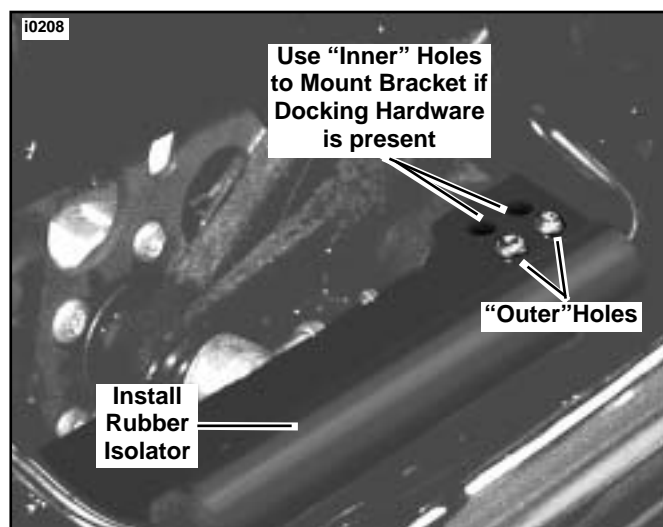

Figure 7. Install Support Bracket
See Figure 7. If docking hardware was installed, use the inner two holes to mount the support bracket to the saddlebag support. If docking hardware has not been installed, use the outer two holes.
13. See Figure 7. Install two screws (Part Number 3540) through saddlebag support and into support bracket as shown. Install nuts (Part Number 7739). Tighten to 10 ft-lbs (13.1 Nm).
17. See Figure 7. Install rubber isolator over support bracket with “flat” side facing down.